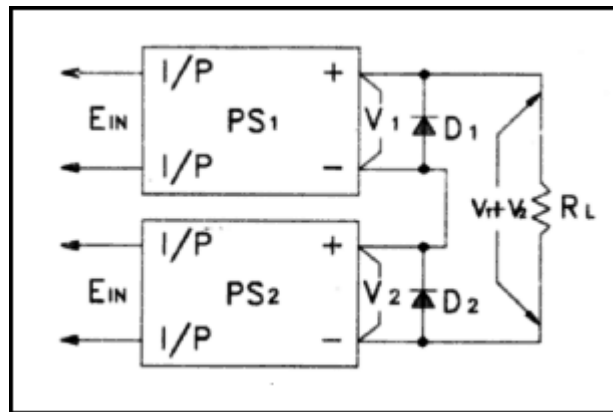

Fig. 16
b. Fig. 16 illustrates a sample set up for series connected power supplies. The diode, connected directly across the output terminals, is also recommended in any application where a reverse voltage may be applied to the power supply's output. As a general guide, the diodes should be Schottky Barrier with a reverse voltage more than twice the output voltage and rated output current more than twice the rated output current or short-circuit current whichever is greater.